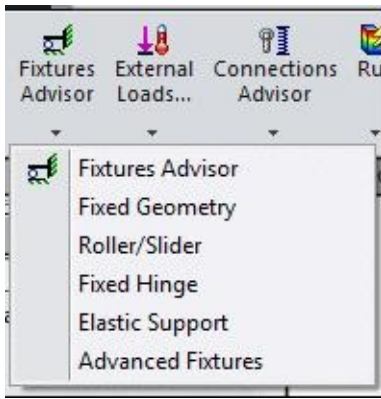

Figure-4. Fixtures Advisor
- Click on the down arrow below **Fixtures Advisor** in the **Ribbon**. The tools related to fixtures will be displayed; refer to Figure-4.